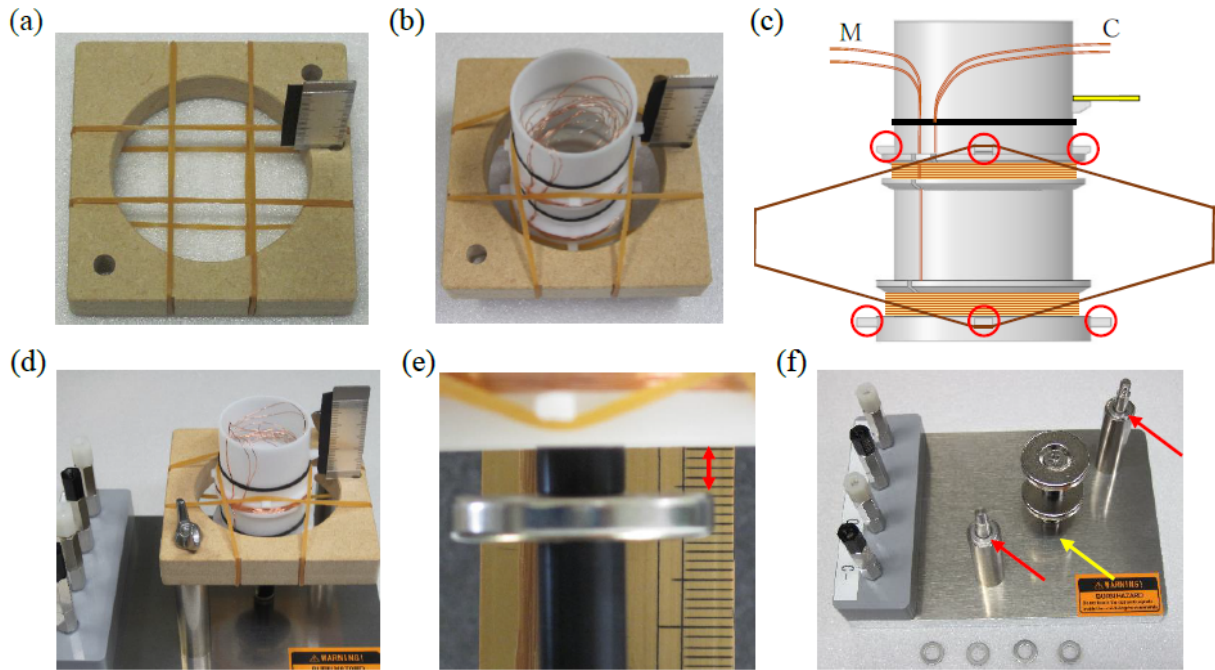

Figure 3: Installation of the oscillator.
1. Remove the support from the mounting base. Wrap four rubber bands around it in a grid pattern (See Fig. 3(a)).
2. Insert the cylindrical oscillator from the scale side into the square opening amid the crossed rubber bands. Place the wire leads on the other side of the scale. (Fig. 3(b)).
3. The oscillator is designed to hang on the support with four rubber bands and eight little hooks (red circled in Fig. 3(c)). When properly implemented, one rubber band loop forms a truncated rhombus with two hooks above and below the support level in the side view.
4. Refix the support to the post diagonally with two thumbscrews. The scale has to stand upright on top, not on the side of the binding posts (Fig. 3(d)).
6. The main coil should sit near the middle of the two magnets when at rest, which can be confirmed by the distance between the upper surface of the lower magnet and the lower surface of the oscillator being 3 to 5 mm (Fig. 3(e) red arrow). If it is low, put the shims between the binding posts and the support (Fig. 3(f) red arrows). If it is high, turn the post of the magnet to remove it and add the shim under the post (Fig. 3(f) yellow arrow).
1. Locate and pull gently the correct pair of wires leading to the main (M) and control (C) coils (Fig. 3(c)) from inside the oscillator (Fig.3(b)). Check to see if the enamel has been stripped off from the loose ends.